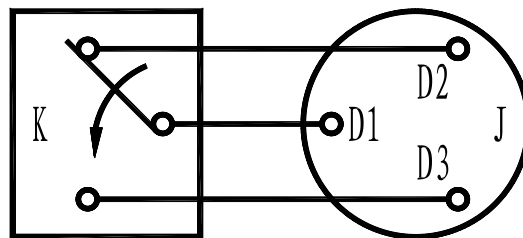

图 3 (Fig. 3)
5.2 继电器提供一个动合与动断转换接点，接线引出端的形式见图 3, K 为微动开关，J 为接线端子。
5.2 Relay are provided with a switching contact with acting to ON and acting to OFF, See fig.3.